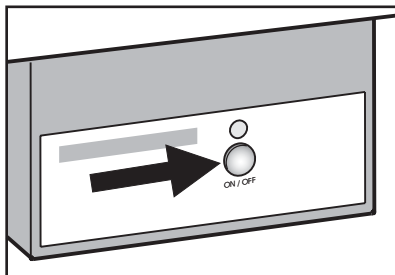

Figure 13
To Start the IceMaker - Figure 13
- Press the "ON/OFF" button so the control lamp comes on (**Figure 13**).